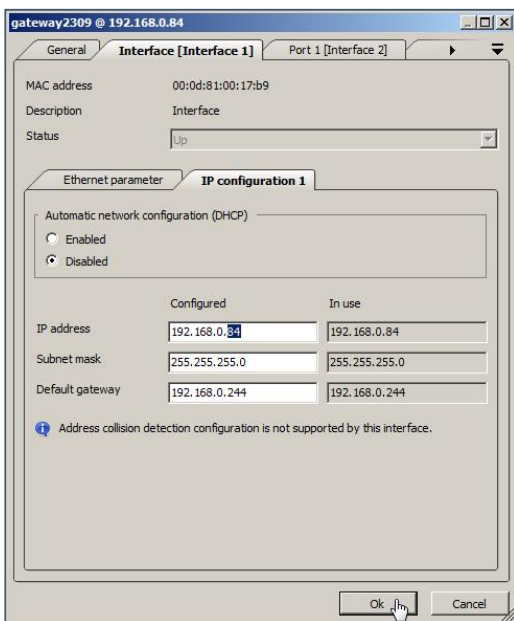

Figure 76: Editing the IP address manually
- 2) Corresponding to 8.2.1, the IP address can be assigned manually. Select **Edit configuration...** (see: Figure 75: PROFINET gateway with the existing IP address), then click **Interface [Interface 1] > IP configuration 1** to edit the IP address as required, and click **OK** (see: Figure 76: Editing the IP address manually).